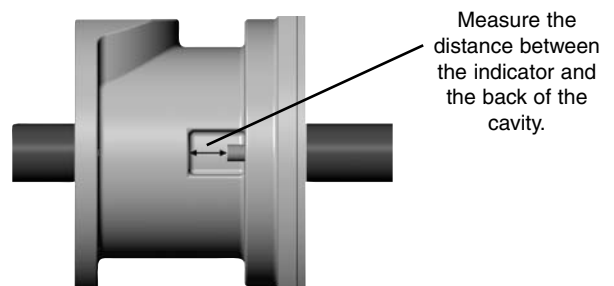

Figure 1. Seal ring indicator measurement
Before installing the joint body (1), an initial measurement needs to be taken from the seal ring wear indicator as shown in Figure 1. This can be done using snap gauges and calipers. Record this measurement for later use.